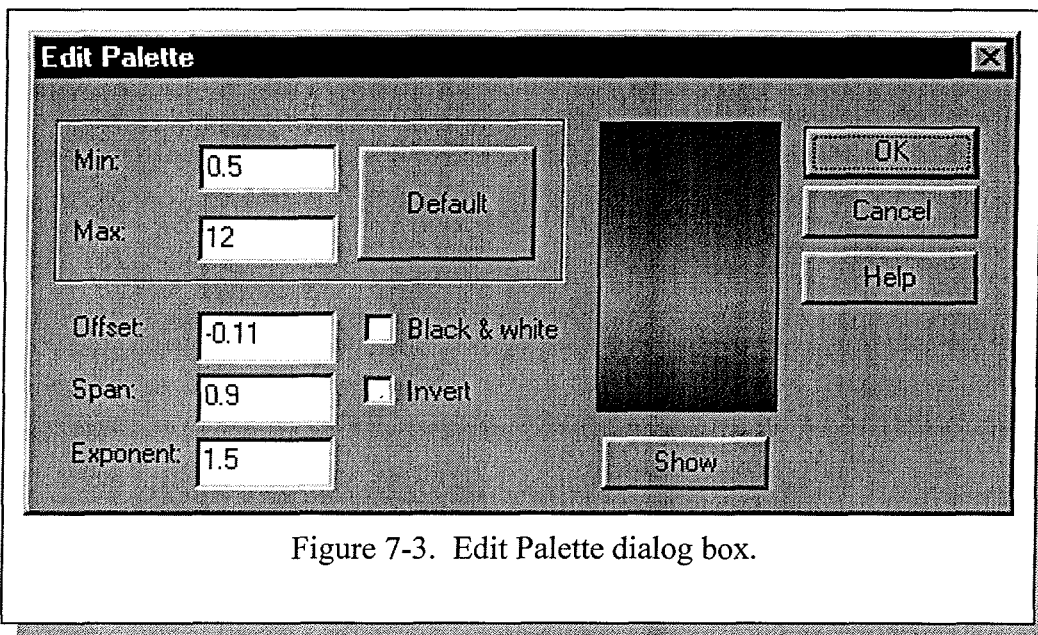

Figure 7-3. Edit Palette dialog box.
7.4 Channel / Edit Palette (Figure 7-3.)